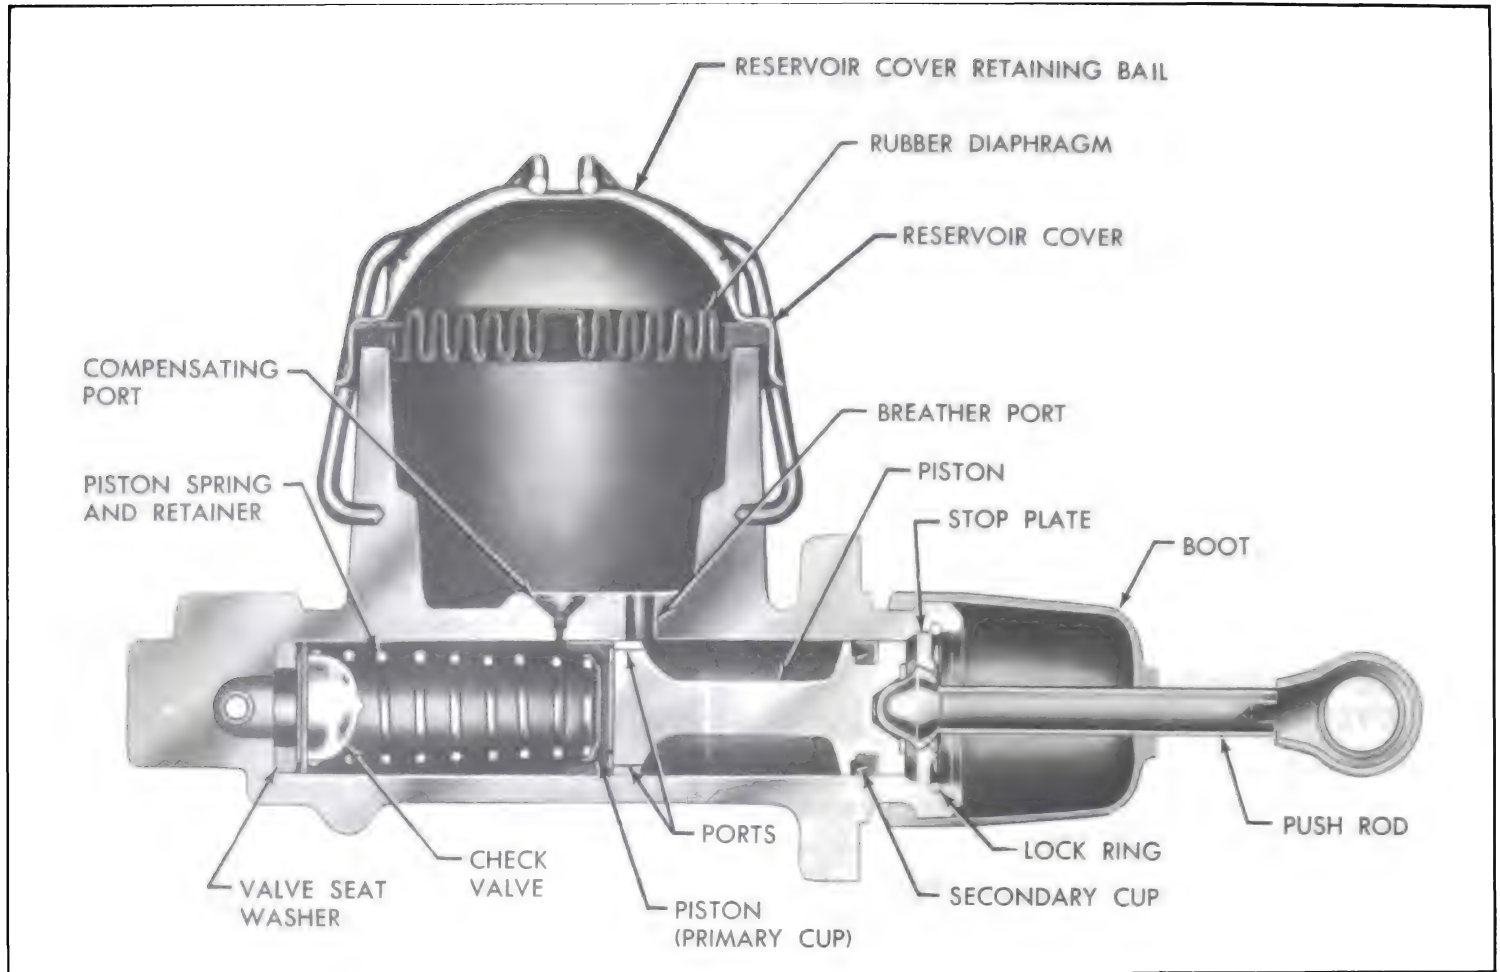

Figure 9-14—Standard Brake Master Cylinder
1. Remove rubber boot. Remove lock ring, then remove push rod with stop plate. See Figure 9-14.